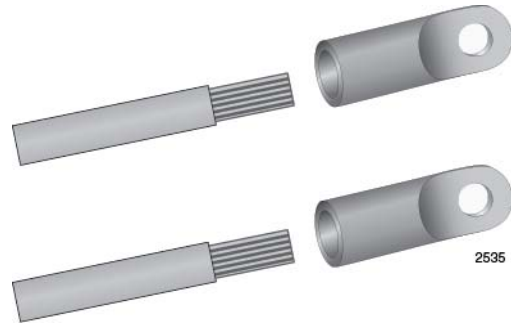

Figure 134. Attaching the Power Wires to the Power Terminal Lugs
2. Insert the power wires into the terminals included with the power supply and use a crimping tool to secure the wires to the terminals. See Figure 134 on page 201.